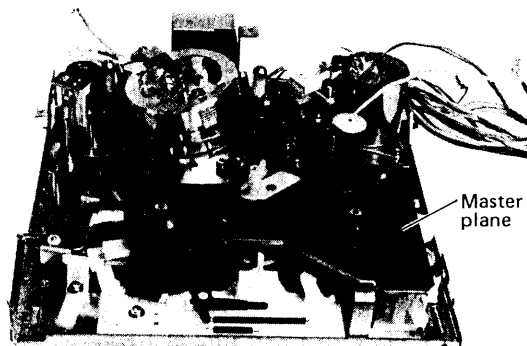

Fig. 2-18 Master plane jig setting
- 1) Set the master plane jig as shown in Fig. 2-18.